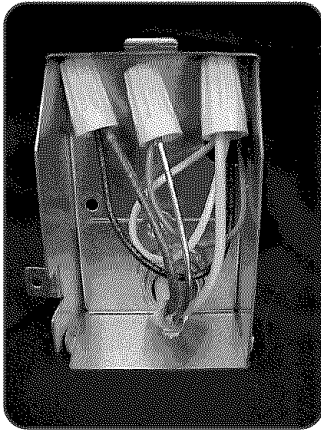

Figure 31
- 6 Press the wires into the junction box as shown in **Figure 31**. Make certain that the wire nuts do not loosen.